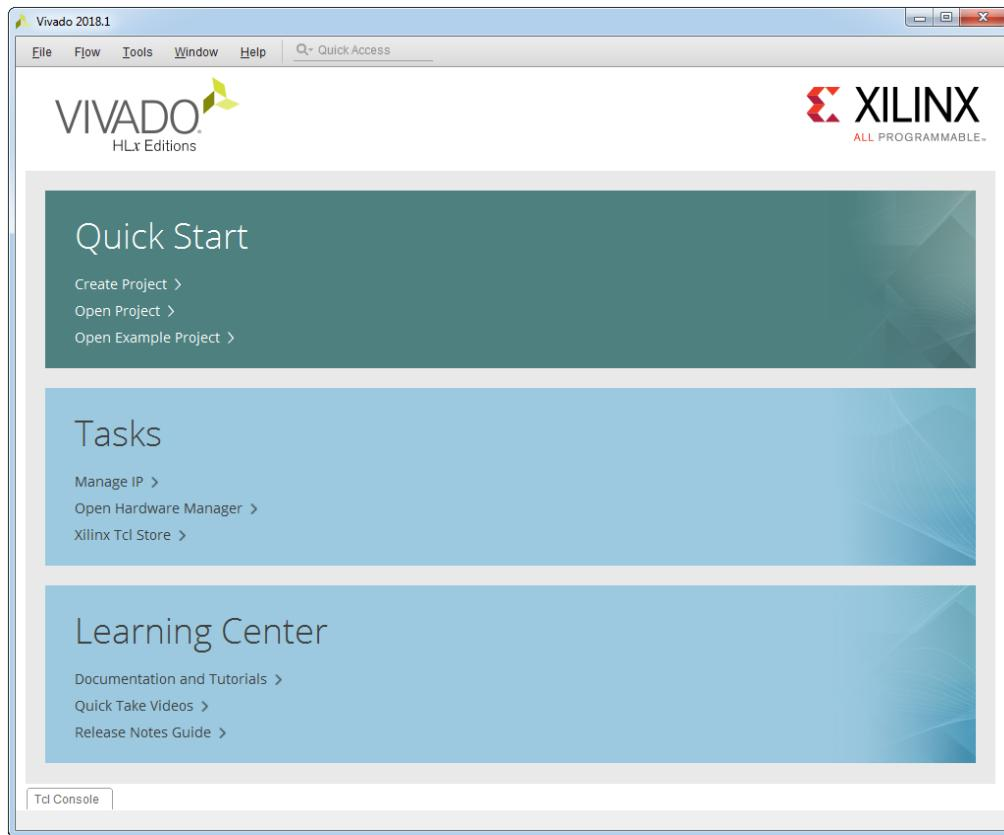

Figure 2.2: The Vivado Getting Started page
1. Launch the **Vivado** software: Select **Start -> All Programs -> Xilinx Design Tools -> Vivado 2018.1 -> Vivado 2018.1** and the Vivado **Getting Started** page will appear, see Figure 2.2.